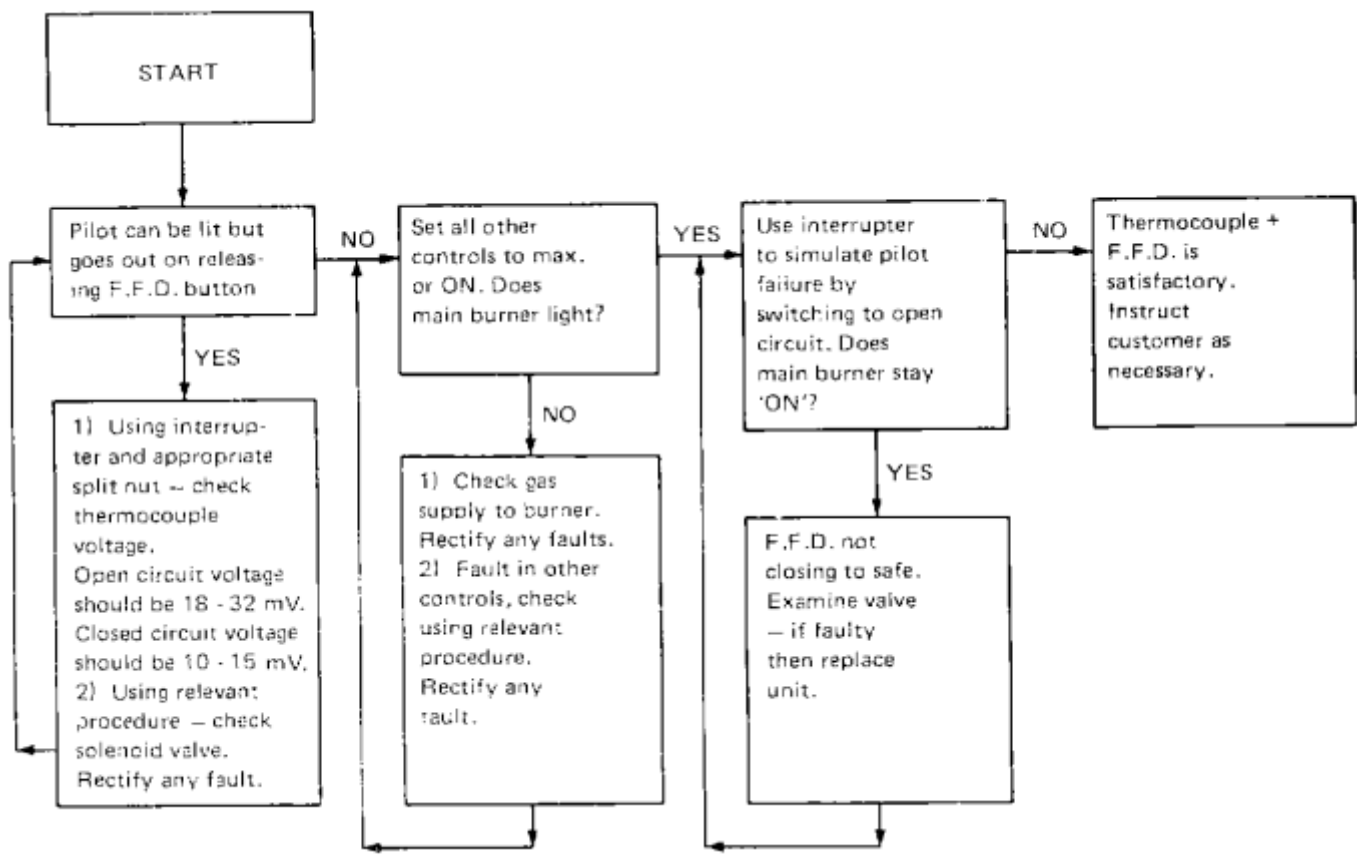
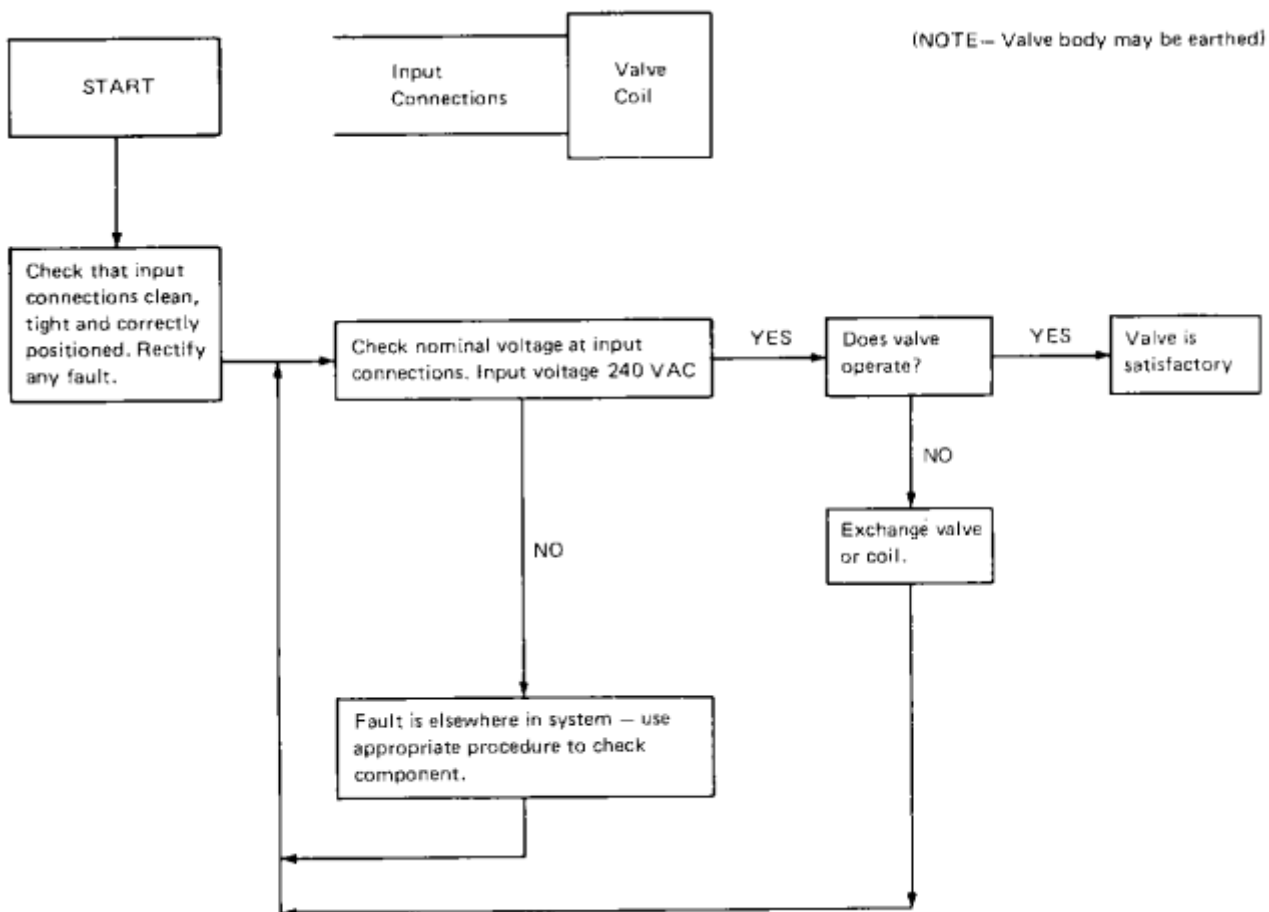

FIG. 15 F.F.D. AND THERMOCOUPLE
FIG. 16 SOLENOID VALVE
B. Main burner fails to light and pilot is extinguished when pressure on the button is released,	(1) Control button not held down long enough.	Control button must be fully pressed down for 20 seconds before main valve can be energised.
(2) Loose thermocouple connection into control valve,	Tighten thermocouple union nut finger tight plus ¼ turn only. Ensure connection is clean and dry. TOO MUCH PRESSURE MAY DAMAGE INSULATION AND CAUSE FAILURE.
(3) Pilot rate too low.	Adjust the pilot flame, see Section 6 .
(4) Partially blocked pilot filter or pilot injector.	As item A(3) and A(4).
(5) Failure of thermocouple, power unit or latching mechanism	After pilot has been on for 20 seconds, release control button. If pilot light goes out:- (a) Check F.F.D. and thermocouple using procedure given in Fig. 15 . (b) If thermocouple has failed, replace as described in Maintenance Instructions, Section 7.d.
C. Main burner fails to light, pilot burning.	(1) Boiler thermostat set to 'off' or low setting	Note setting of thermostat dial and check temperature of flow pipe.
(2) Additional controls not calling for heat	Check programmer or clock is 'ON' and that room thermostat or other distant control is not closed down. Carry out preliminary electrical system checks.
(3) Honeywell Control solenoid valve failed.	Check solenoid using procedure given in Figure 16 . If solenoid valve has failed; replace as described in A(3).